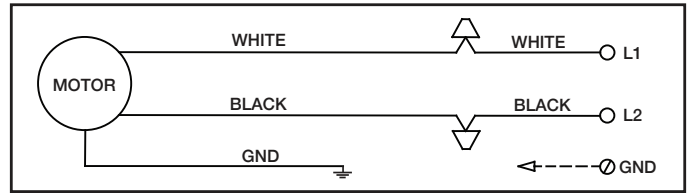

Figure 5
12. Slide the upper canopy (B) up the rod to within 1/4” of the ceiling or beam and securely tighten the set screw (F).
13. If a remote speed control or reverse switch is to be used refer to the Instruction Manual included with that controller for proper installation and wiring. Refer to Figures 5 and 6 for proper installation and wiring.